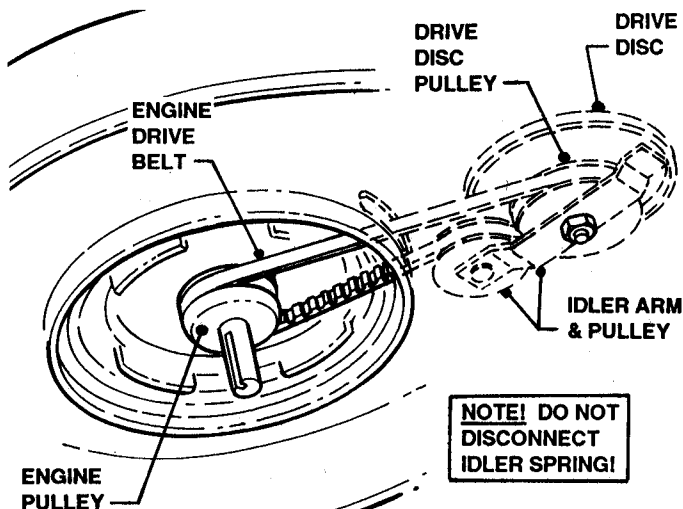

FIGURE 3.24
- Install new belt around Drive Disc Pulley, then feed other end through deck opening and around Blade Pulley. See Figure 3.24.